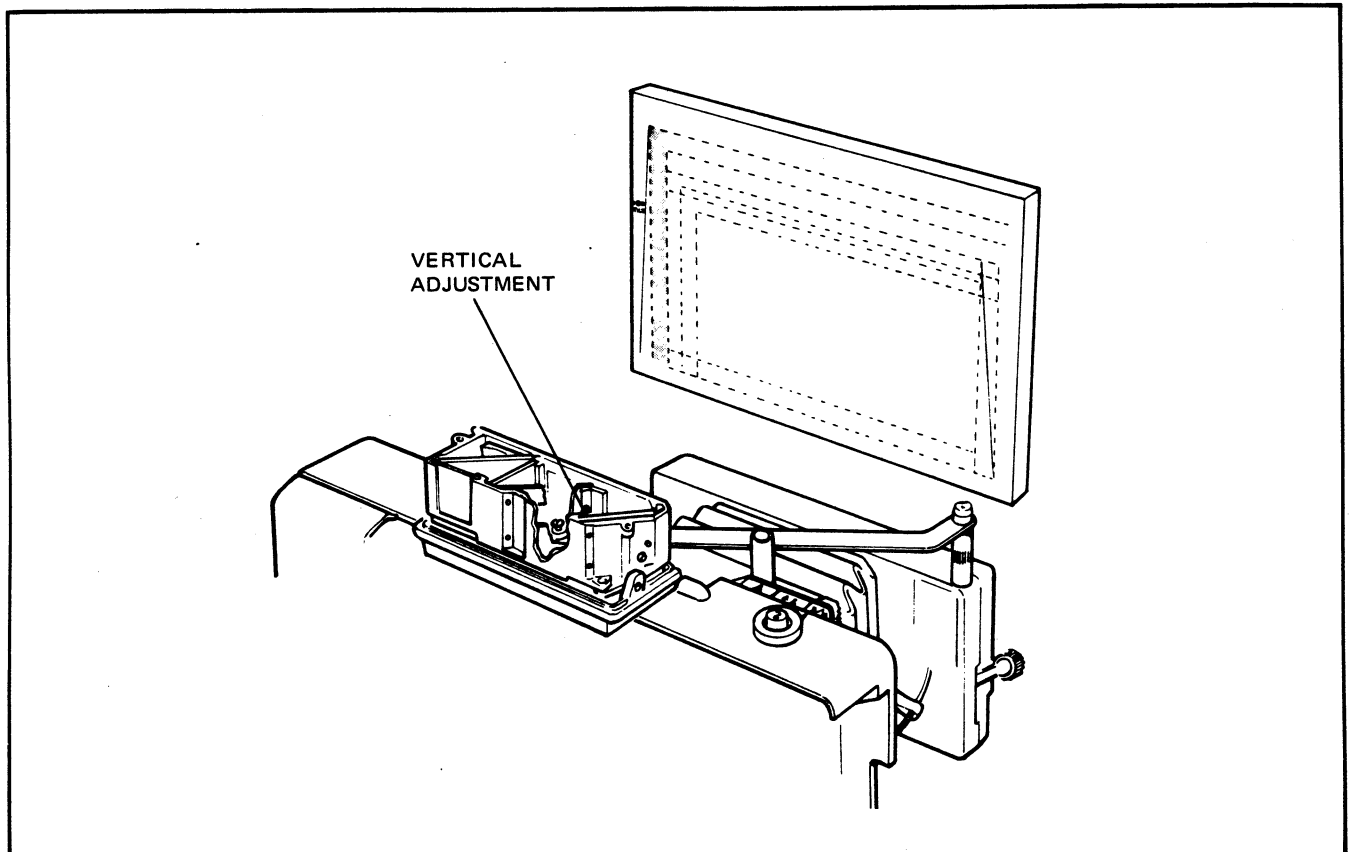

FIG. 5.50 PARALLAX VERTICAL ADJUSTMENT FOR ZEISS IKON RF/VF
- c. Set the focus bar to INFINITY and observe the frame target. Using a jeweler's screwdriver, turn the vertical adjusting screw until the left side vertical line of the yellow projected frame image is within the area bounded by the 180 tilt target lines (Figure 5-50). When the adjustment is complete, seal the adjusting screw with shellac. **Don't let the shellac drip into the cantilever assembly.**